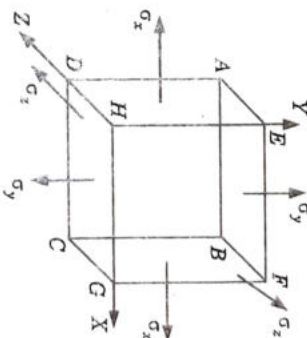

Fig. 1.5.1.
2. Consider a cubical element subjected to stress σ along X , Y and Z directions (as shown in Fig. 1.5.1).